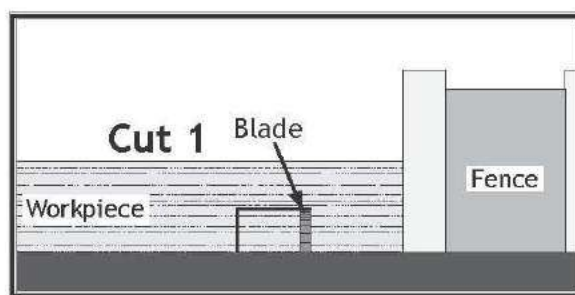

Figure 62. First cut for a single-blade dado.
5. Align blade to cut one side of dado, as shown in Figure 62.